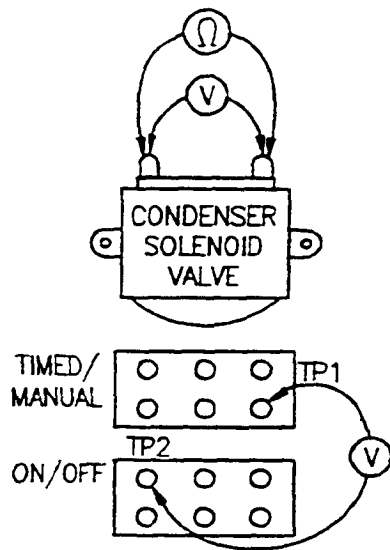

Figure 5-12- Condenser Solenoid Valve
5. Refer to Figure 5-12, and connect the voltmeter leads to test point 1 and test point 2. With these connections, check for 0 VAC across the drain solenoid.